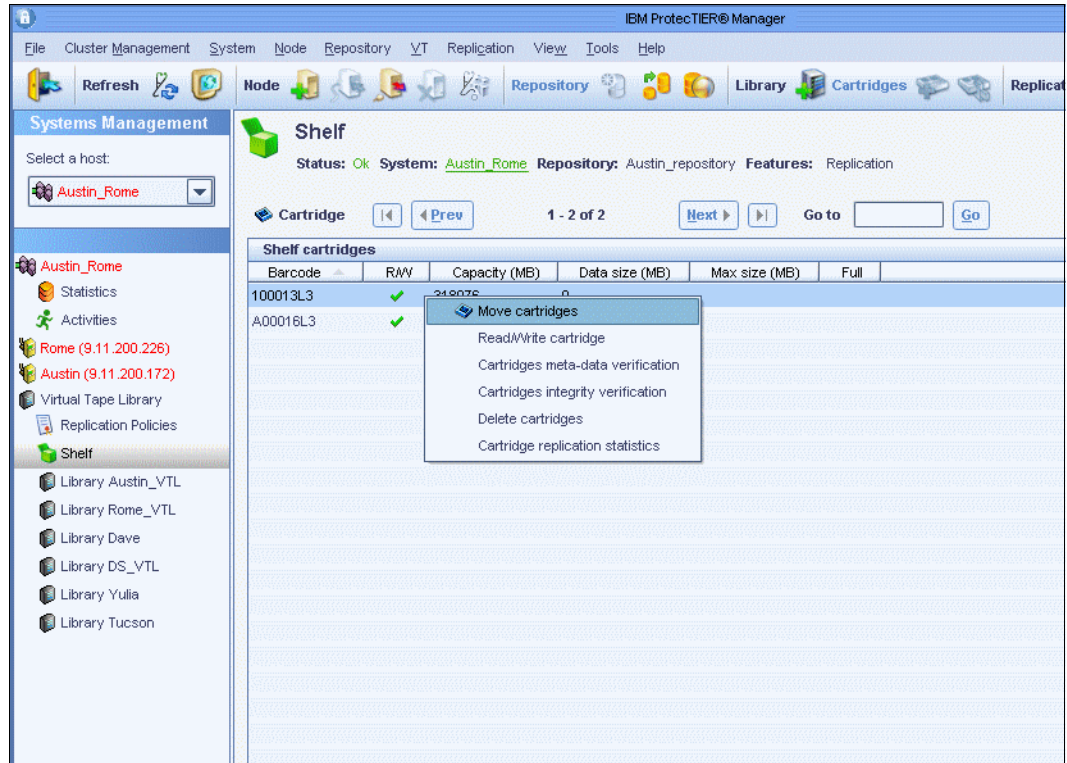

Figure 10-141 Select the cartridge to be moved
7. Select the **00005L3** cartridge and select **VT → VT cartridge → Move cartridges**, or you can select the cartridge and right-click and select **Move cartridges** (Figure 10-141).